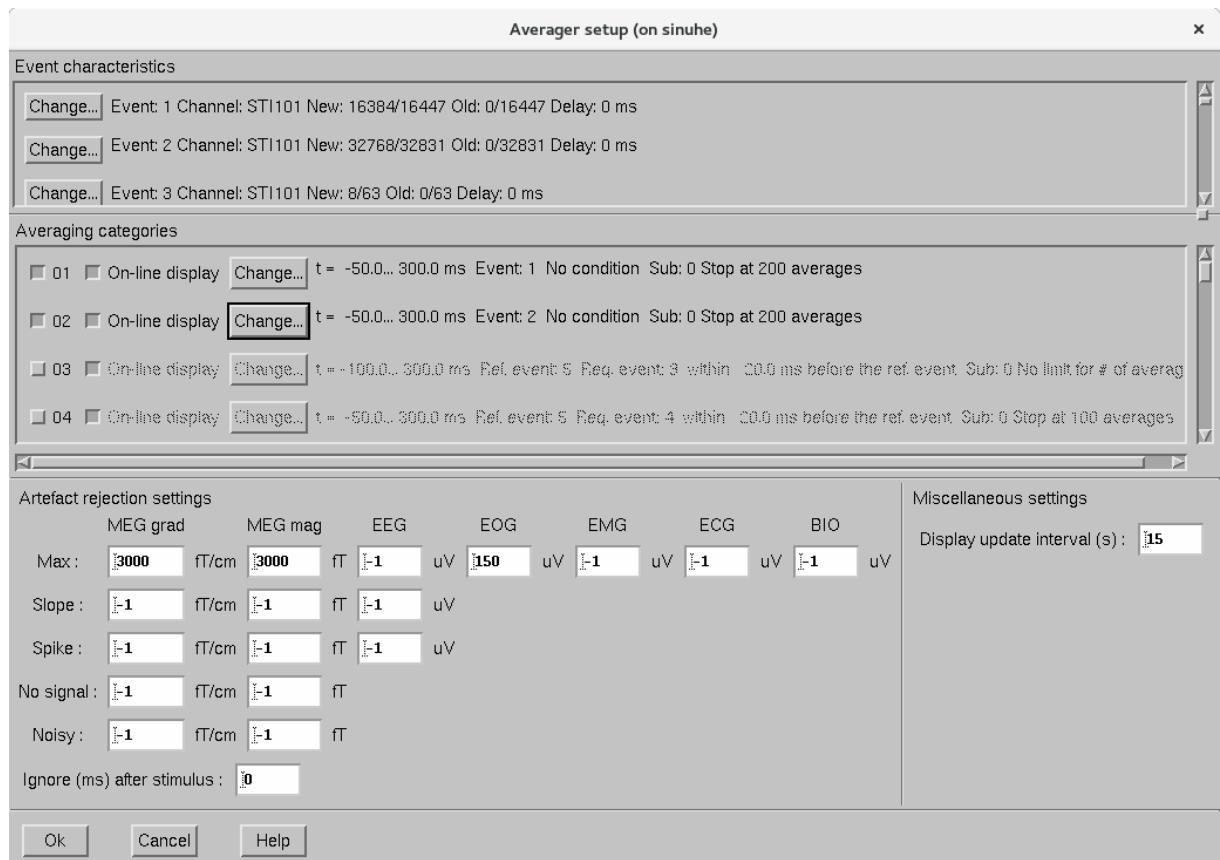

Figure 25: Setup events and on-line averaging.
- Select **Change** for **On-line averaging** to set up the events and on-line averaging rejections (Figure 25). You can use the default **Artifact rejection settings** unless cHPI is used, then this threshold will prevent online averaging, set Max = -1 for MEG grad and MEG mag (no rejection applied).
- Set **Artifact rejection settings** as in Figure 25.
- Thereafter, set **Artifact rejection settings** as in Figure 25.